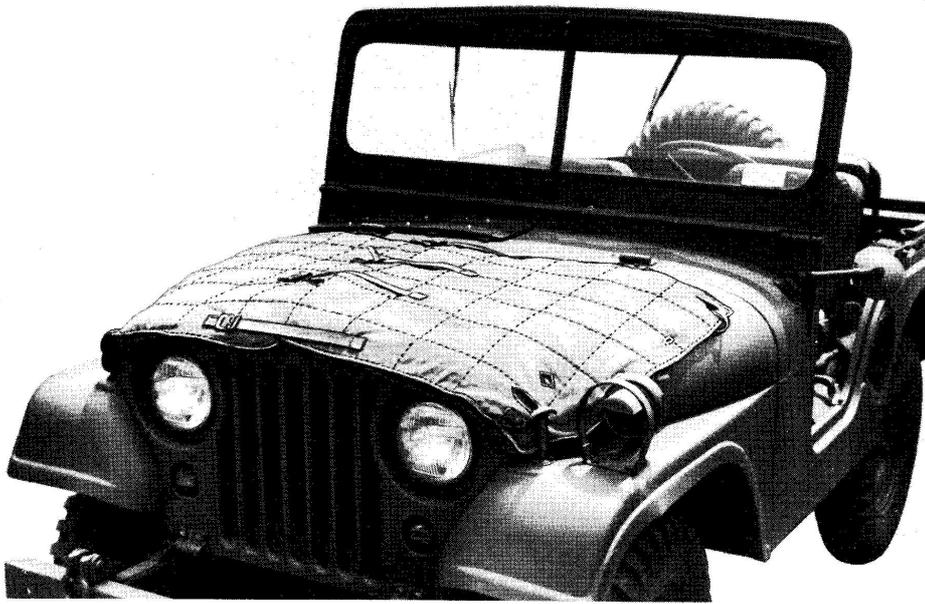

Fig. 31. Hood covers in position.
- a. Place the hood covers in position, Fig. 31.